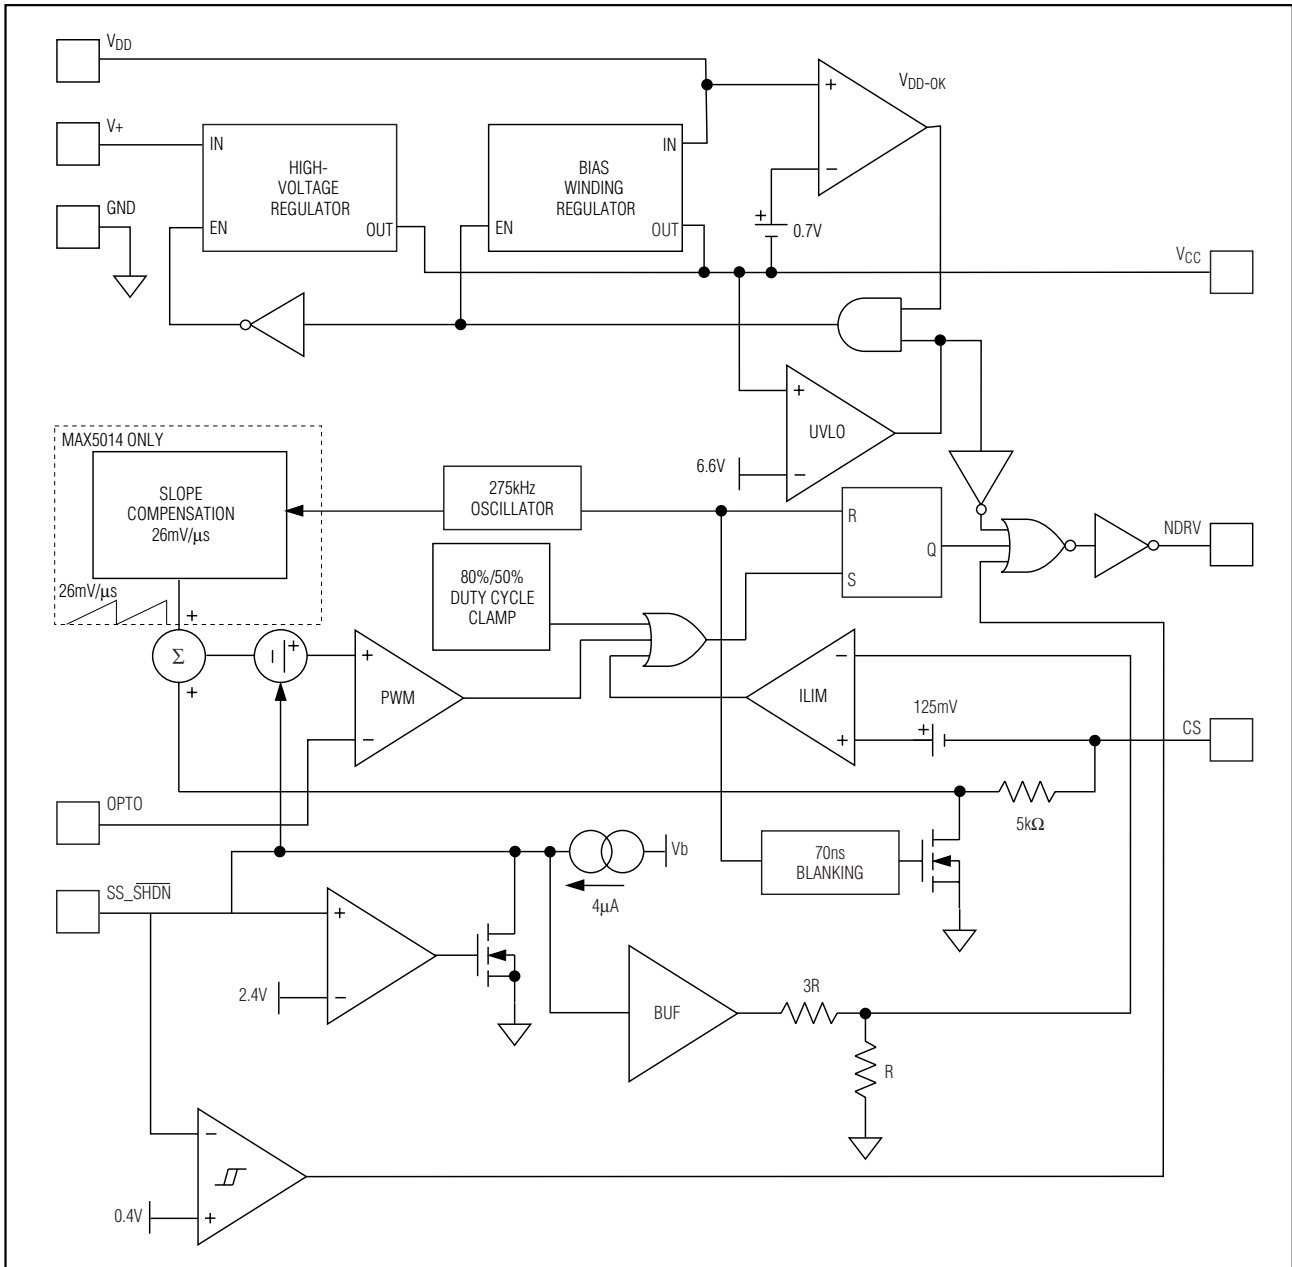
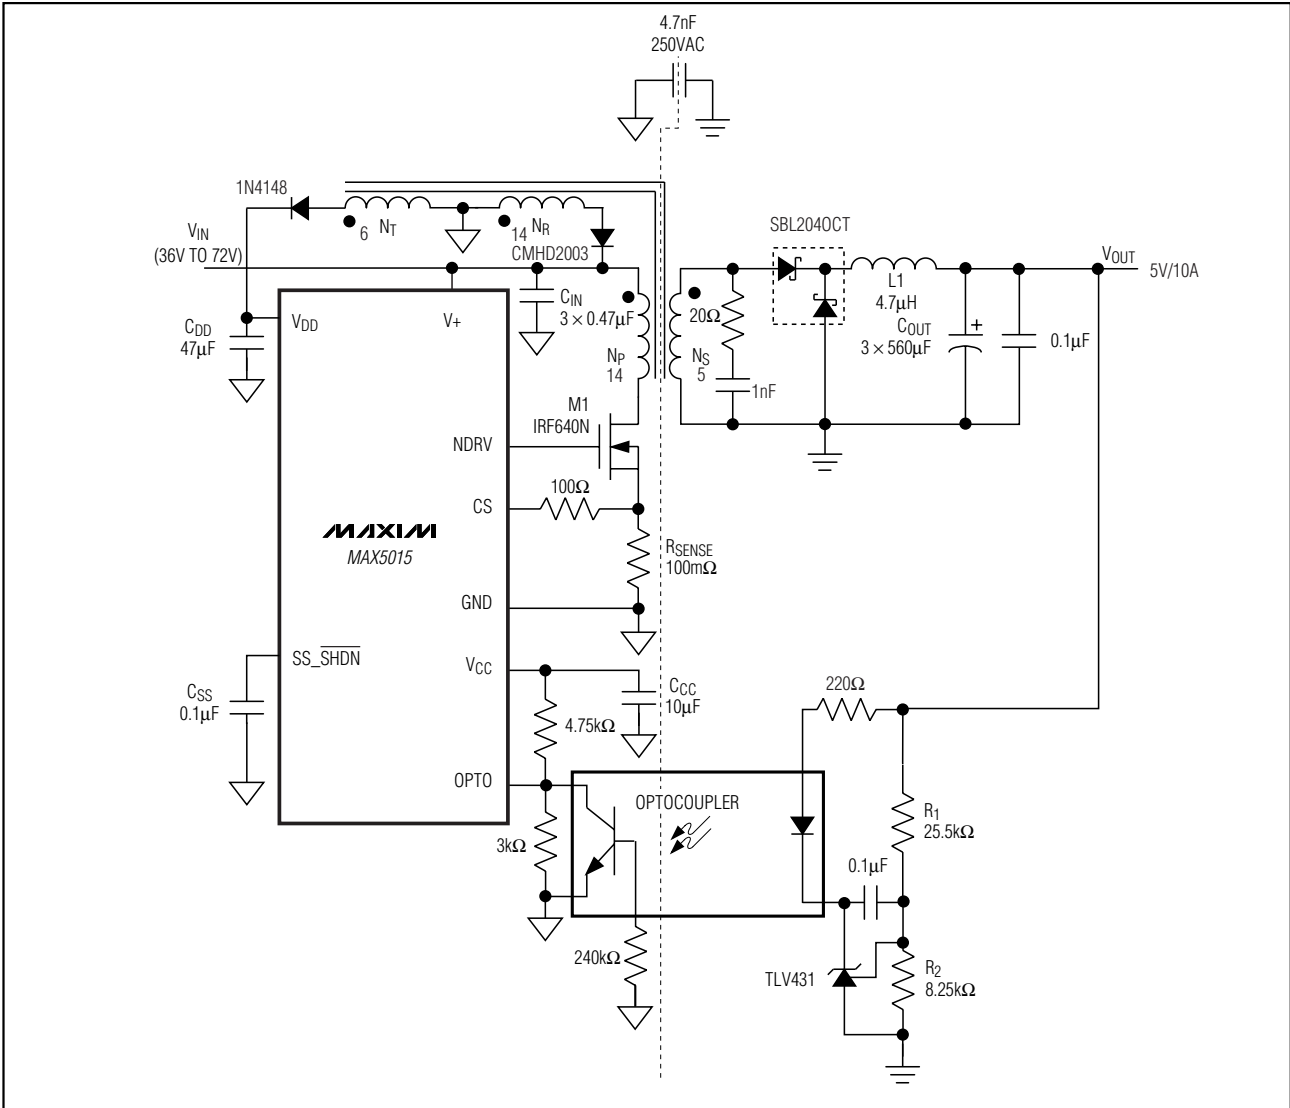
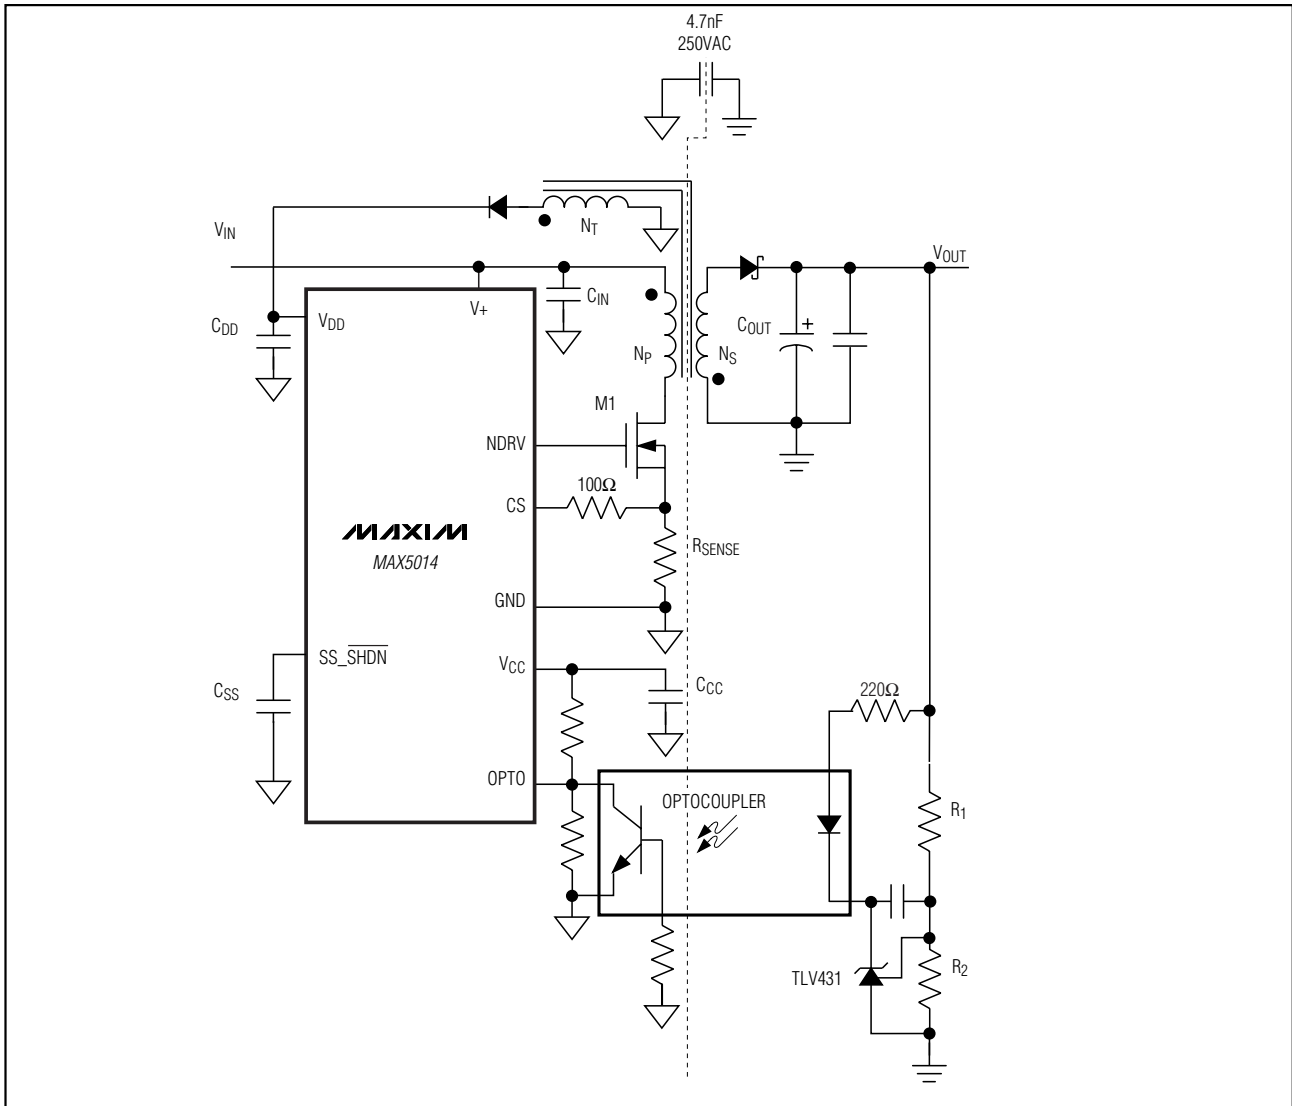

Figure 1. Functional Diagram
Figure 2. Forward Converter
Figure 3. Flyback Converter
Use the MAX5014/MAX5015 PWM current-mode controllers to design flyback- or forward-mode power supplies. Current-mode operation simplifies control-loop design while enhancing loop stability. An internal high-voltage startup regulator allows the device to connect directly to the input supply without an external startup resistor. Current from the internal regulator starts the controller. Once the tertiary winding voltage is established the internal regulator is switched off and bias current for running the IC is derived from the tertiary winding. The internal oscillator is set to 275kHz and trimmed to ±10%. This permits the use of small magnetic components to minimize board space. Both the MAX5014 and MAX5015 can be used in power supplies providing multiple output voltages. A functional diagram of the IC is shown in Figure 1. Typical applications circuits for forward and flyback topologies are shown in Figure 2 and Figure 3, respectively.
Isolated voltage feedback is achieved by using an optocoupler and a shunt regulator as shown in Figure 2. The output voltage set point accuracy is a function of the accuracy of the shunt regulator and feedback resistor-divider tolerance.
where  $C_{\text{SS}}$  is the soft-start capacitor as shown in Figure 2.
The current-sense (CS) comparator and its associated logic limit the peak current through the MOSFET. Current is sensed at CS as a voltage across a sense resistor between the source of the MOSFET and GND. To reduce switching noise, connect CS to the external MOSFET source through a 100Ω resistor or an RC low-pass filter (Figures 2, 3). Select the current-sense resistor,  $R_{\text{SENSE}}$  according to the following equation:
The following is a general procedure for designing a forward converter (Figure 2) using the MAX5015.
The circuit in Figure 2 was designed as follows:
where  $V_{REF}$  is the reference voltage of the shunt regulator, and  $R_1$  and  $R_2$  are the resistors shown in Figures 2 and 3.